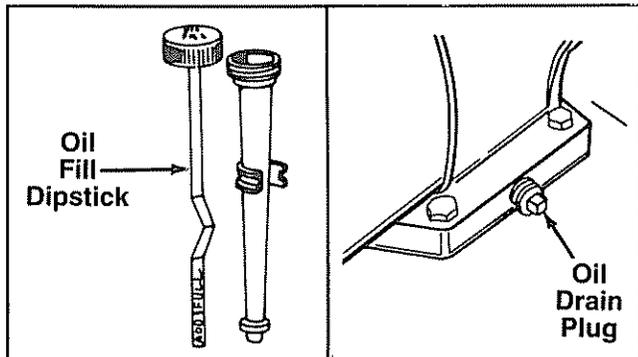

FIGURE 7.
- Fill engine with oil as follows. Remove oil fill dipstick. See figure 7. With chipper-shredder level, use a funnel to fill engine with oil to FULL mark on dipstick. Capacity is approximately 1-1/4 pints. Be careful not to overfill. Tilt chipper-shredder toward the left (from behind the hopper), then re-level. Check oil level. Refill to FULL mark on dipstick if necessary. Replace dipstick and tighten.
Check engine oil level regularly—approximately every five hours of operation and before each usage. Stop engine and wait several minutes before checking oil level. With engine level, the oil must be to FULL mark on dipstick (refer to figure 7). Change engine oil after the first five hours of operation, and every twenty-five hours thereafter.
Remove oil drain plug. Refer to figure 7. Tip the chipper-shredder, and catch oil in a suitable container.